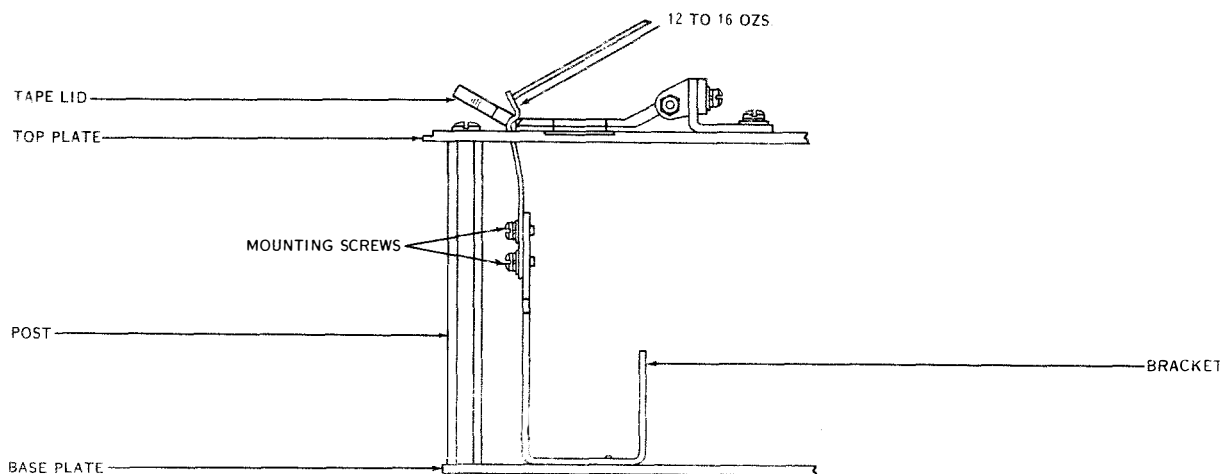

Figure 7-102. Tape Lid Latch Spring
in the center of the slot in the top plate. There should be a minimum clearance of 0.006 inch between the selector lever pins (also tape-out pin) and the edges of the slotted holes (see figure 7-102).
(40) TAPE LID LATCH SPRING. (See figure 7-102.)—The tape lid latch spring should be positioned vertically so that the tape lid will latch firmly in place. To adjust, loosen the tape lid latch spring mounting screws and position the spring. Tighten the mounting screws.
(41) TAPE LID LATCH SPRING TENSION. (See figure 7-102.)—When the tape lid is latched, it should require a tension of 12 to 16 ounces to start the latch spring deflecting. To check, place the push end of a 32-ounce scale on the uppermost bent portion of the spring and push downward. To adjust, bend the spring